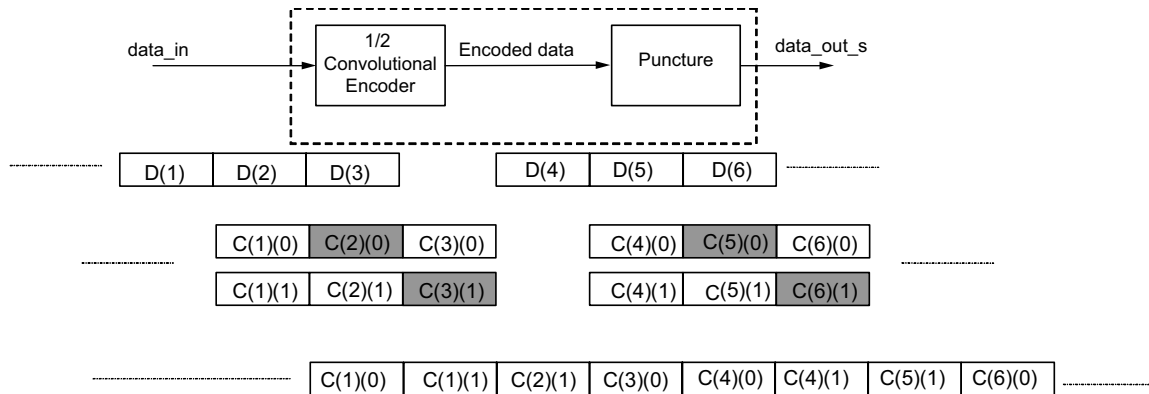
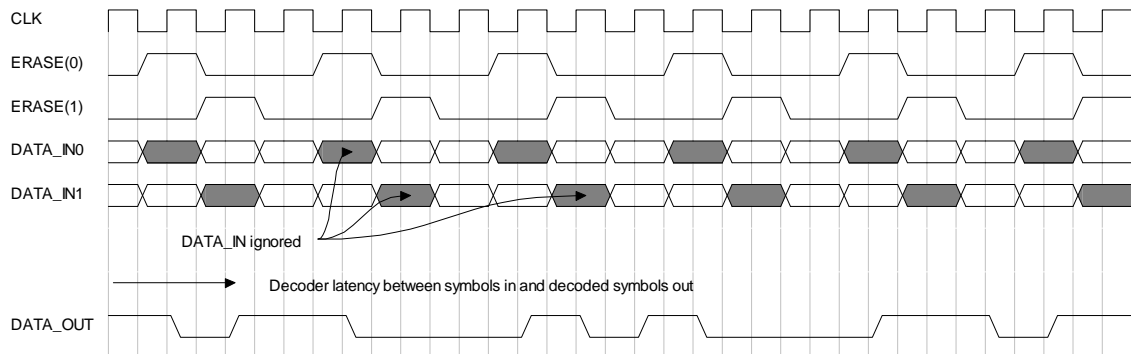

Figure 3-7: Puncturing Encoded Data with 3/4 Puncture Rate with Single-Channel Output
Figure 3-9: Viterbi Decoder with Erasure Input Following a Rate 3/4 Pattern
If the data has been punctured prior to transmission, then de-puncturing is carried out externally to the Viterbi Decoder (see Figures 3-7 and 3-8). The presence of null-symbols (that is, symbols which have been deleted prior to transmission across the channel) is indicated using the erasure input ERASE. The decoder functions exactly as a non-punctured Viterbi Decoder, except the corresponding DATA_IN inputs are ignored when the erased input bit is High. If ERASE(0) is High, then the input on DATA_IN0 is viewed as a null-symbol. If ERASE(1) is High, then the input on DATA_IN1 is viewed as a null symbol. Although the normal usage of erasure is with a rate 1/2 decoder, the erasure pins can be present for output rates greater than 2. Erasure can be used with the Standard, Multichannel and Dual Decoder. Erasure cannot be present on the Trellis Mode Decoder. See the timing diagram in Figure 3-9 for a decoder working with external rate 3/4 erasure.